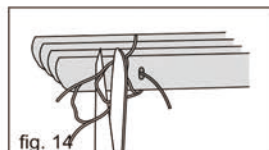

fig. 14
6. Remember to allow for the bottom end slat to be reinserted. Reinsert the lift cord through the cap holes and then insert back through the top and the caps. See fig. 14.
7. Knot lift cord directly beneath caps and cut off excess cord. Allow one extra rung and cut off excess ladder, now tuck remaining ladder into the bottom end slat cap holes. Replace caps. See fig. 14 and 15.